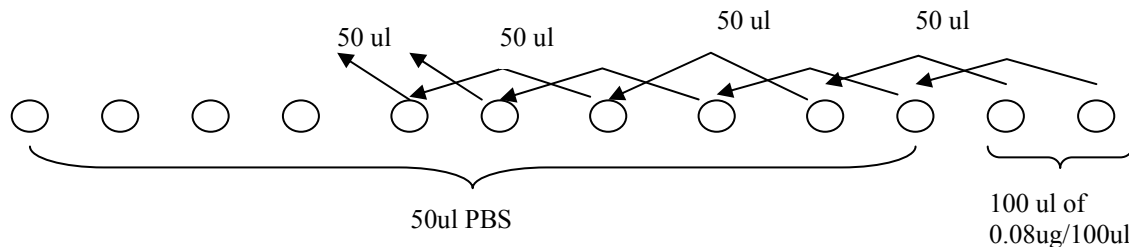

Figure 1. Serial dilution starting with 100 ul of standard solution containing 0.08 ug/100 ul.
- C. Transfer 50 ul of the 0.08 ug sample to a neighboring well that has 50 ul PBS (Fig. 1).
- E. Remove 50 ul from these 2 wells and transfer to 2 neighboring wells (Fig. 1). Mix 3-4x. Repeat for these 2 wells (Fig. 1).
- F. After the 3rd dilution, remove 50 ul from the 2 wells that have 100 ul and dispose of it (Fig. 1). The row will then have a standard curve with the values shown in Table 1.